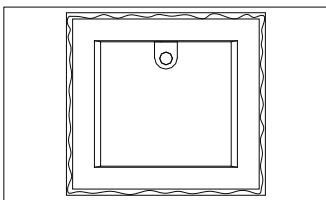

Figure 4
- Cover the lavatory surfaces that will rest on the support surface/countertop with a silicone sealer. (Figure 4)